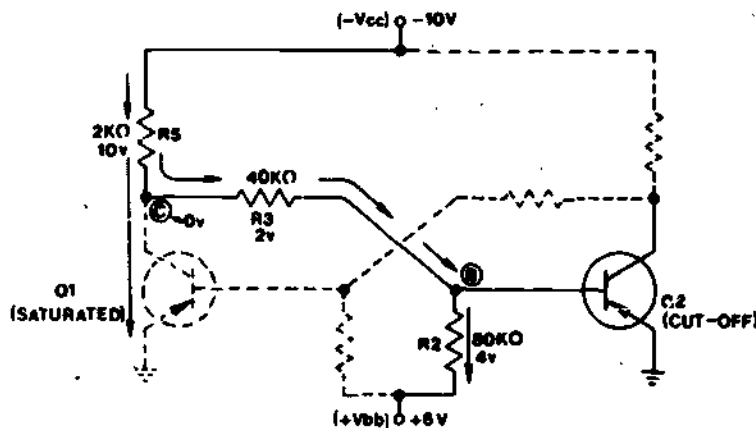

Figure 4
6. Refer to Figure 4 for the values on the other voltage divider network.